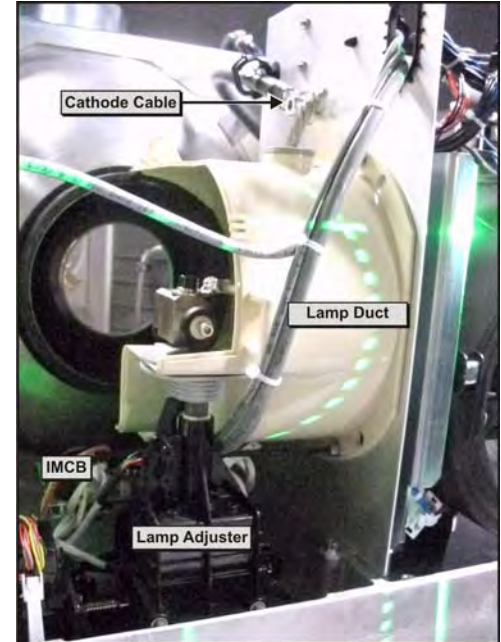

Figure 5-61 Lamp Adjuster
4. Using a 5mm hex key, remove the cathode cable. (**Figure 5-61**)